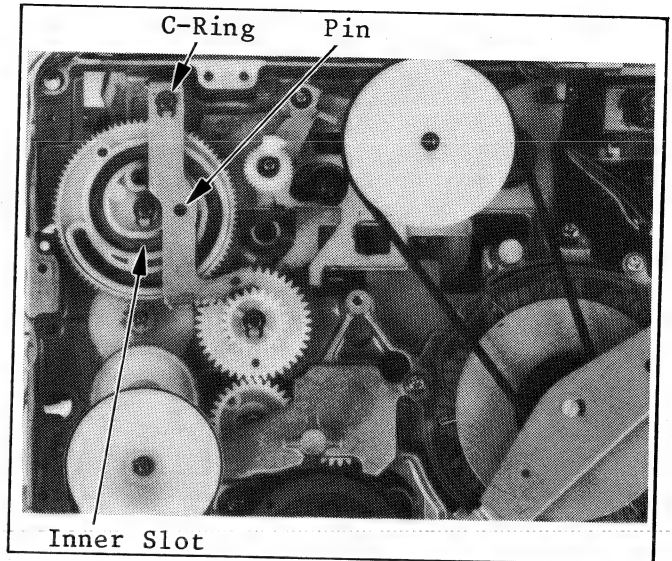

Fig. M34-4 Adj. Procedure
5. Install the sector gear so that the pin on the sector gear meets the inner slot of the cam gear as shown in Fig. M34-4. Also install C-Ring in order to mount sector gear.